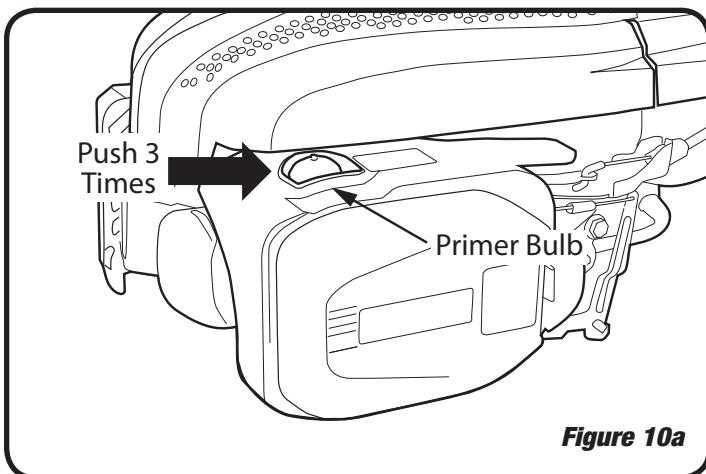

Figure 10a
1. Push the primer slowly three times – waiting about 2 seconds between each push (see fig. 10a). When temperatures are below 55°F, press primer five times. When restarting a warm engine, do not use the primer.